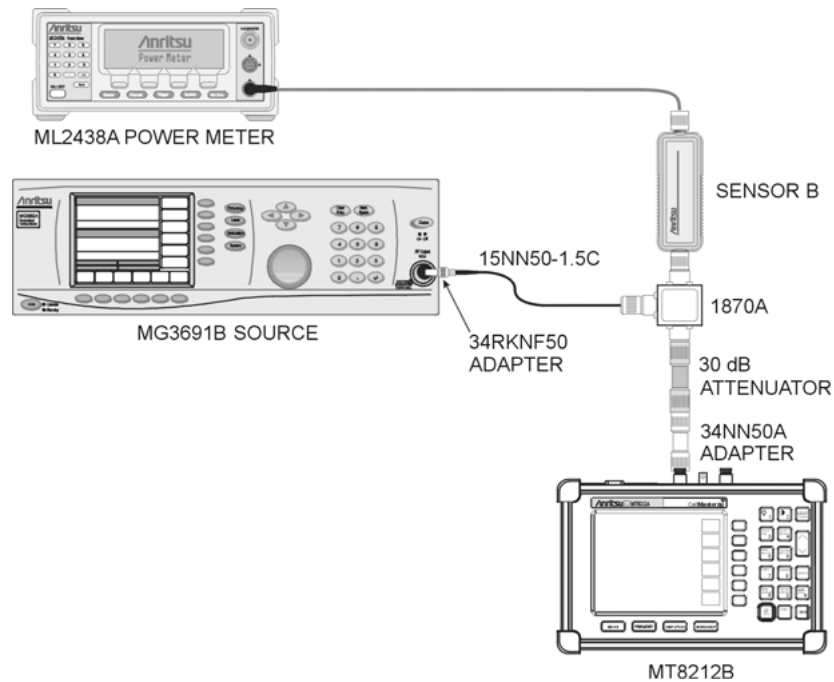

Figure 3-3. Level Accuracy Test through Power Setup
44. Remove Sensor A, install the 34NN50A adapter to the end of the Attenuator, and connect to the MT8212B as shown in Figure 3-3.